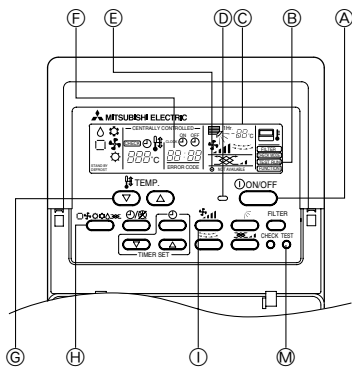

Fig. 10-1
10.2.1. Using wired remote controller (Fig. 10-1)
- ① Turn on the power at least 12 hours before the test run.
- ② Press the [TEST] button twice. ⇒ "TEST RUN" liquid crystal display
- ③ Press the [Mode selection] button. ⇒ Make sure that wind is blown out.
- ④ Press the [Mode selection] button and switch to the cooling (or heating) mode. ⇒ Make sure that cold (or warm) wind is blown out.
- ⑤ Press the [Fan speed] button. ⇒ Make sure that the wind speed is switched.
- ⑥ Check operation of the outdoor unit fan.
- ⑦ Release test run by pressing the [ON/OFF] button. ⇒ Stop
- ⑧ After the checks, always turn off the power.